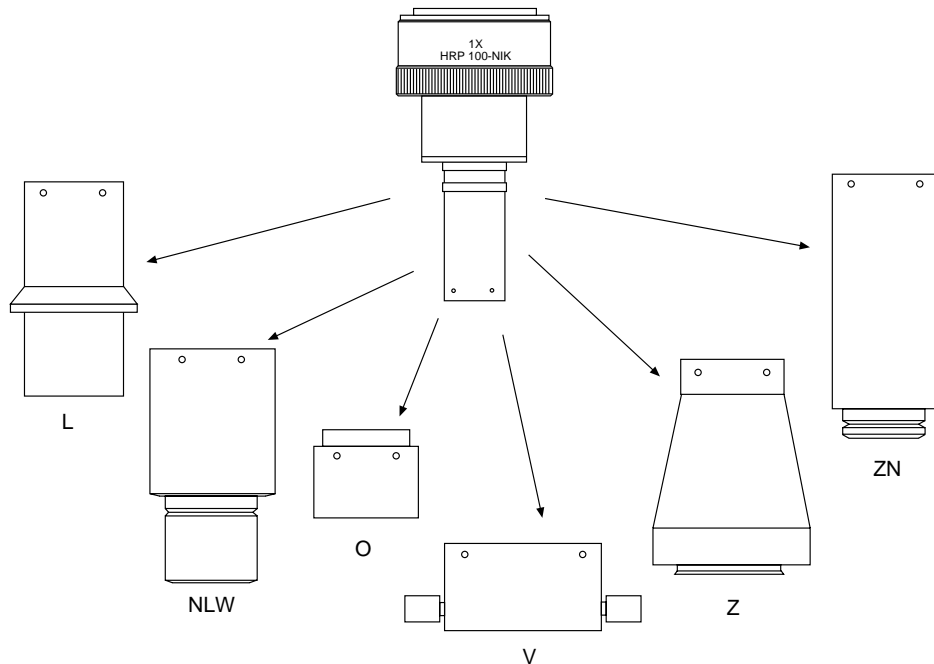

Figure 19. Diagnostic Instruments Bottom Clamps for Different Microscopes
- Figure 19. If you feel that you have received the wrong type of clamp, or if you need a clamp for a microscope other than those listed, please contact the factory.